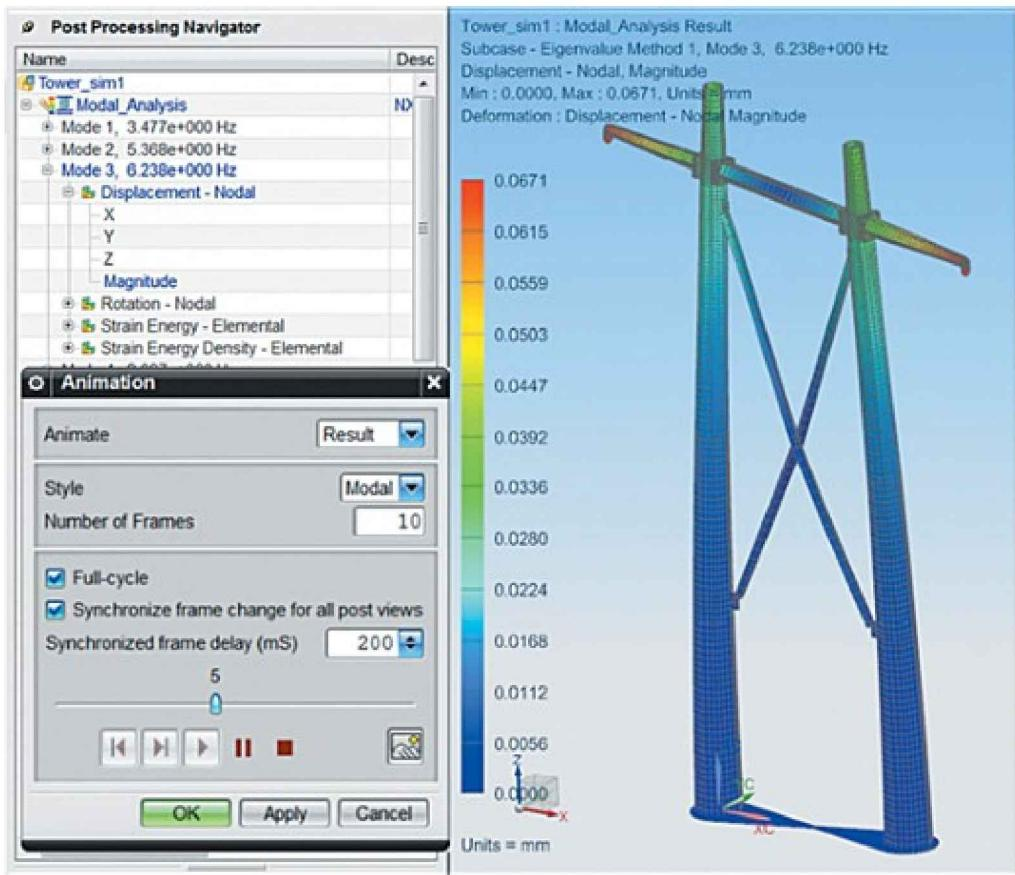

Figure 3.14. Viewing simulation results
7.1. In the **Simulation Navigator** model tree, double-click *Results* and select the **Post Processing Navigator** tab, which contains the loaded results. To view the results of modal analysis, expand the *Modal_Analysis* node, select the frequency of interest, for example, the third (*Mode 3*), expand its node and double-click *Displacement–Nodal* to display the deformed state corresponding to the third free vibration mode in the graphics area (Figure 3.14).
7.2. Normal vibration modes at particular frequencies are typically displayed in animated form. To display animation, on the **Post Processing** toolbar, click the **Animation command**. Set the following options in the dialog box (Figure 3.14):
Each row of the *Modal effective mass* (Figure 3.15) table characterizes the share of effective modal mass for each vibration mode, while each cell of the row characterizes the share of effective modal mass for a degree of freedom. For example, for the third mode shown in Figure 3.14, main displacements correspond to rotation around the OZ axis, therefore the sixth component of the third row has the largest value.